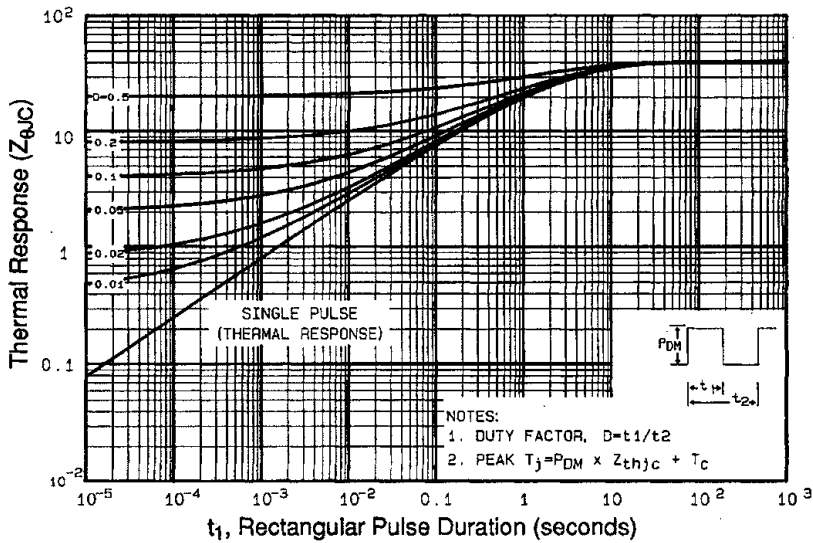

Fig 11. Maximum Effective Transient Thermal Impedance, Junction-to-Case
① Repetitive rating; pulse width limited by max. junction temperature. (See fig. 11)
② $V_{DD} = -25V$, starting $T_J = 25^\circ\text{C}$, $L = 50\text{mH}$